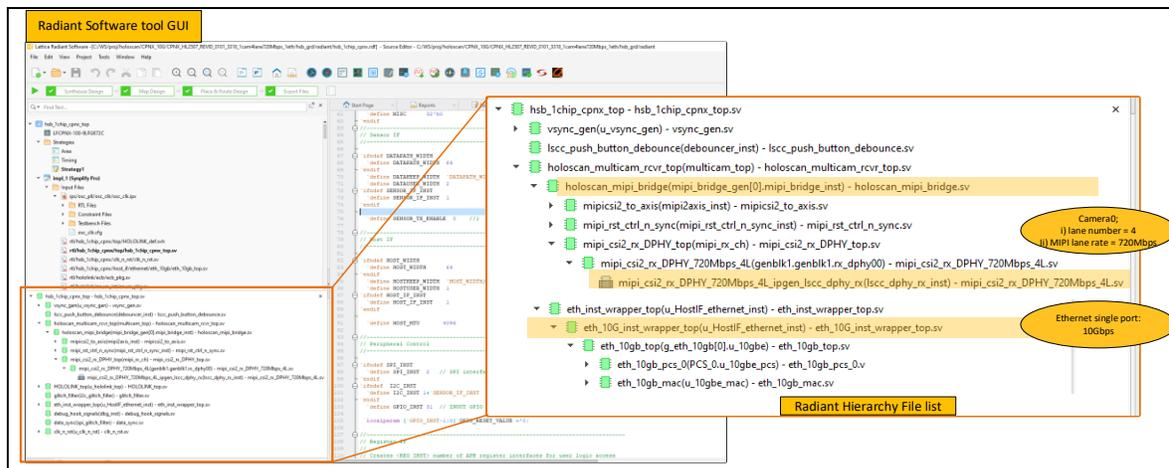

Figure 4.14. Lattice Radiant Software Hierarchy File List
- Verify the reference design configuration. Review the Lattice Radiant software hierarchy file list and the clock summary from the place-and-route timing report. Figure 4.14 shows the reference design in the Lattice Radiant software hierarchy file list. The reference design is now ready for compilation and implementation.